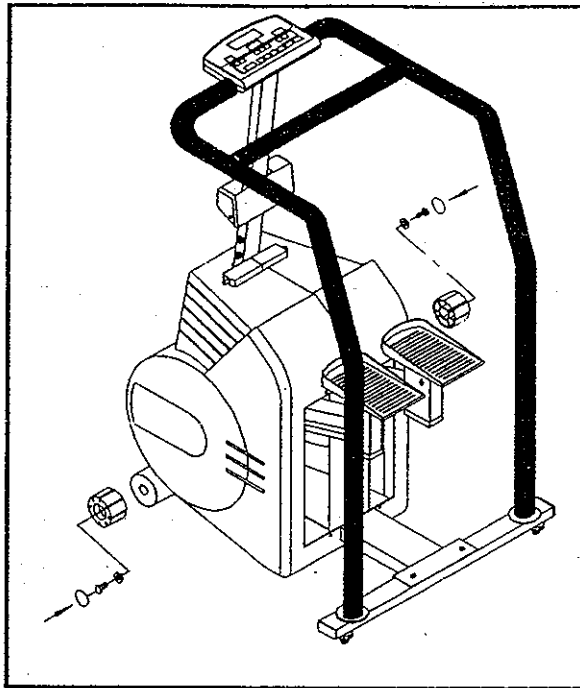

Fig. 22
9. Replace the transport wheels, tighten with screws and washers; then cover with labels (see Fig. 22).